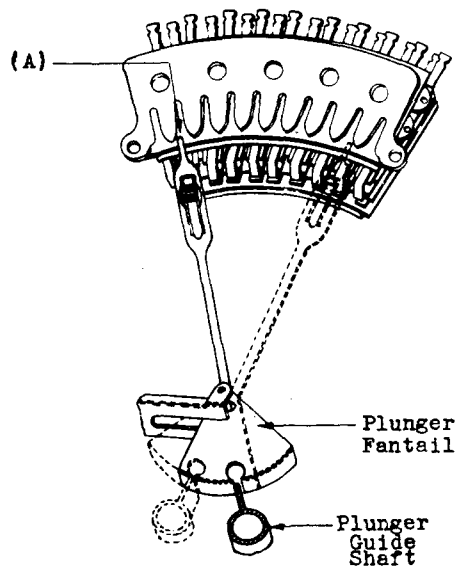

Fig. 8 — Engagement of Plunger With Bank Comb
2.16 Direction of Plunger: Fig. 8(A) — With the plunger guide shaft holding the plunger opposite the No. 2 trunk, it shall not be possible to direct the plunger into either of the adjacent trunks without bending the plunger nor shall it be possible for the plunger to re-engage the plunger guide shaft from an adjacent trunk. This requirement shall also be met with the plunger guide shaft holding the plunger opposite the No. 9 trunk.